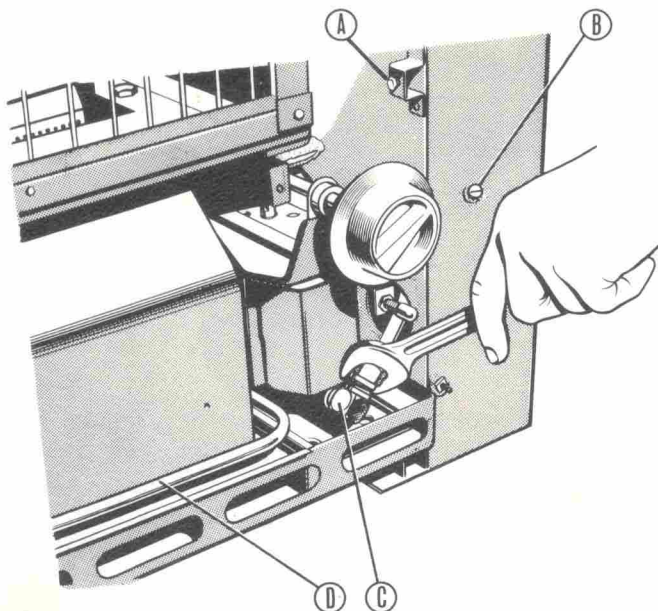

Fig. 17
8. The fuel line connection may now be made (as shown in Figure 17).
7. Place the heater in position into the flue, and connect up the fuel line (see Figure 17, opposite), which will come in through the back of the heater into the oil control connection.
7. Slide the heater into position in the flue and connect the copper fuel line (as shown on Figure 17, Page 10).
2. Disconnect fuel line to heater (C, Figure 17).